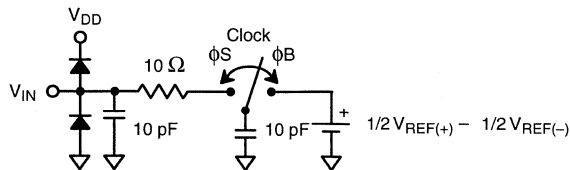

Figure 5. Analog Input Equivalent Circuit
- 4 See V_{IN} input equivalent circuit (Figure 5). Switched capacitor analog input requires driver with low output resistance.